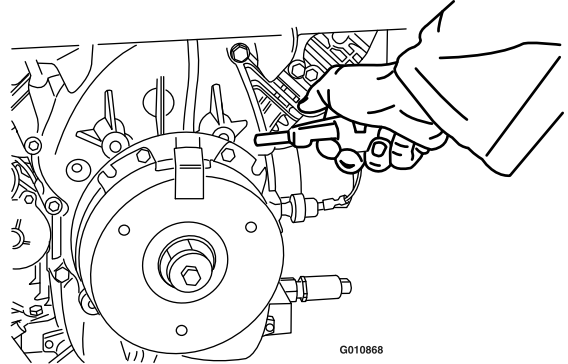

Figure 68
3. Using an air compressor, blow out any debris from under the brake pole and around the brake spacers (Figure 68).